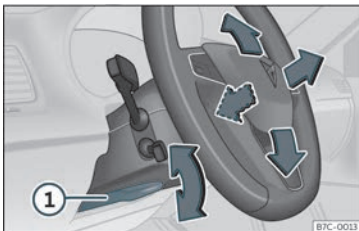

Fig. 3 Lever in the lower left side of the steering column.
- Pull the »» Fig. 3 ① lever down, move the steering wheel to the desired position and lift the lever back up until it locks.
- After adjusting the steering column, push the lever »» Fig. 3 ① firmly upwards to ensure the steering wheel does not accidentally change position while driving.